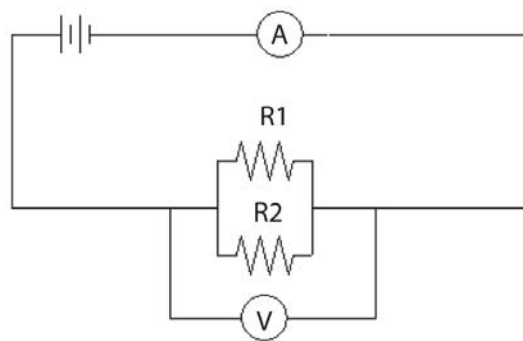

Figure 3.14: Schematic for 2 resistors connected in parallel.
9. **Construct the parallel circuit shown in Fig. 3.14.** Use the graphical method to find an experimental value of the effective (equivalent) parallel resistance. Record your measurements in Data Table 5.